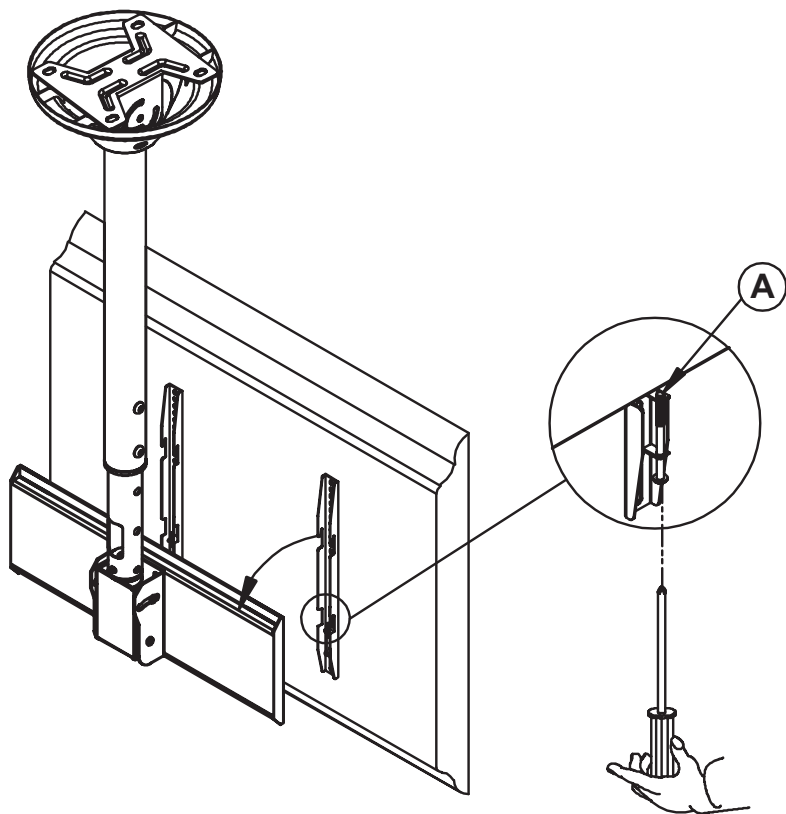

Figure 7 - Attach TV Assembly to Front Plate
Hang the pre-assembled TV unit on the front plate, as shown in Figure 7. Tighten the screws (A) to secure the TV unit to the front plate. This wall mount is designed to conceal cables inside the pole. Run cables through the ceiling and out through the hole at the bottom of the pole for a clean look.